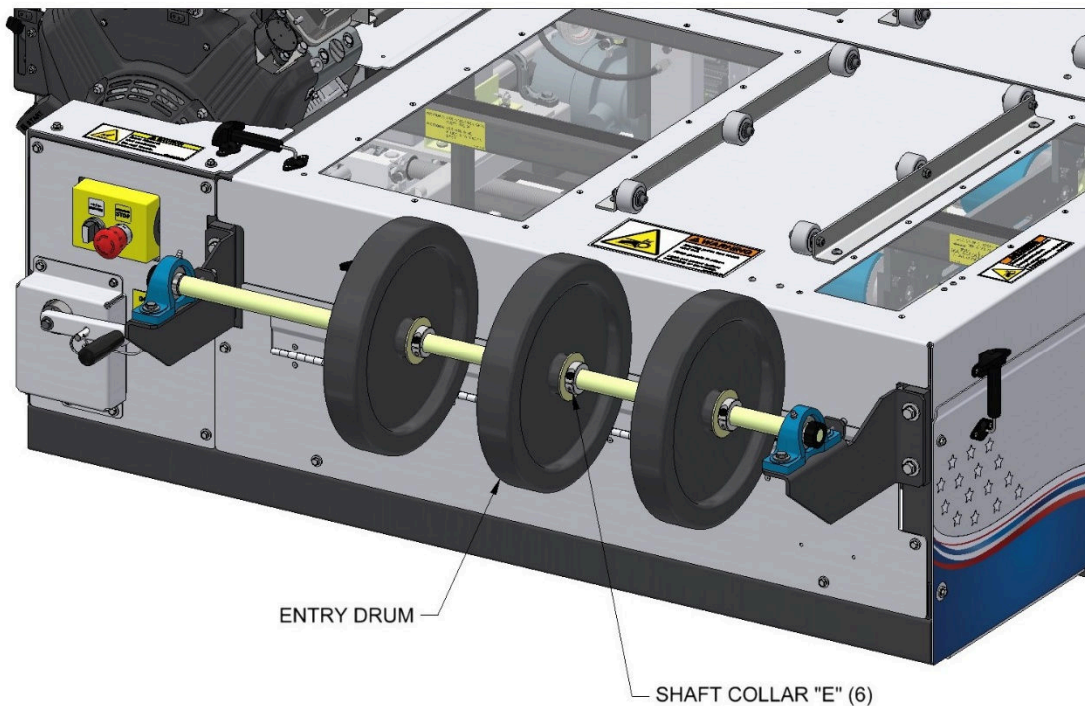

Figure 52: Entry Drum
1. Using a 3/16" Allen wrench, loosen the Shaft Collars "E", on either side of the drum. (Figure 52)